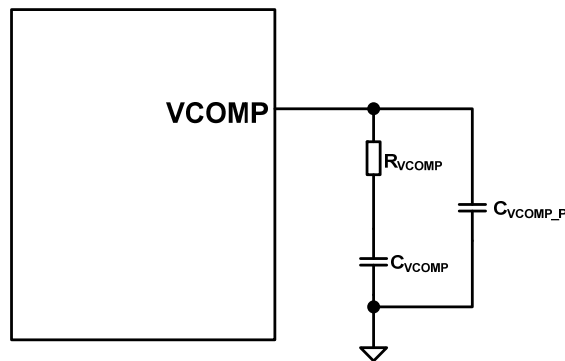

Figure 7: Compensation Network on VCOMP
VCOMP is the compensation node for the system output voltage control loop through the LLC frequency. Connect a capacitor in series with a resistor on VCOMP or an R-C-C network (see Figure 7). The zero composed of the R_{ICOMP} and C_{ICOMP} is recommended to cancel the pole formed by the system output. See Equation (11):